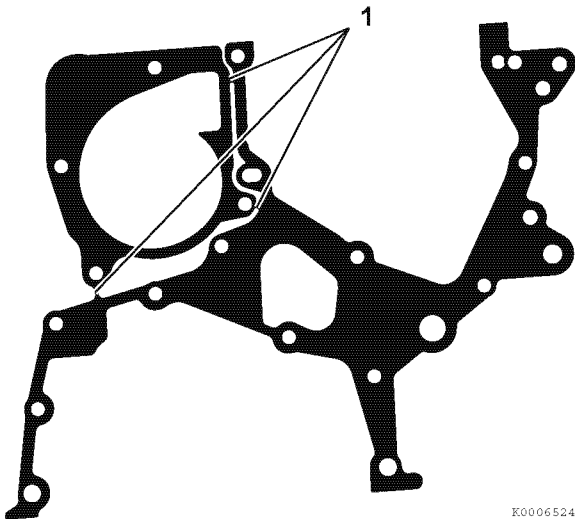

Figure 5-86
12. If the coolant pump has not been removed, cut the gasket at the three tabs (1, **Figure 5-86**) and remove timing case cover portion of gasket.